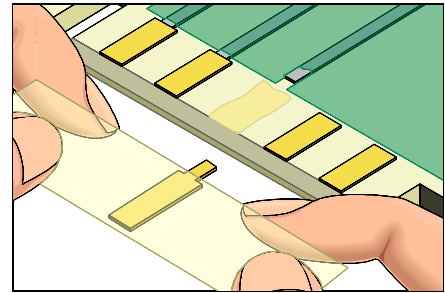

Figure 4: Place the new edge contact in place using Kapton tape.
11. Place a piece of Kapton tape over the top surface of the new edge contact. Position the new edge contact on the PC board surface using the Kapton tape to aid in alignment. (See Figure 4).